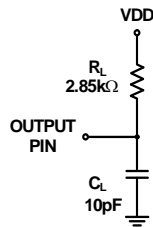

FIGURE 4. EQUIVALENT LOAD CIRCUIT
11. During characterization, $t_{DISABLE}$ is measured from the release point with a $10pF$ load (see Figure 4) and the equivalent timing using the AD7440/450A loading ($25pF$) is calculated.